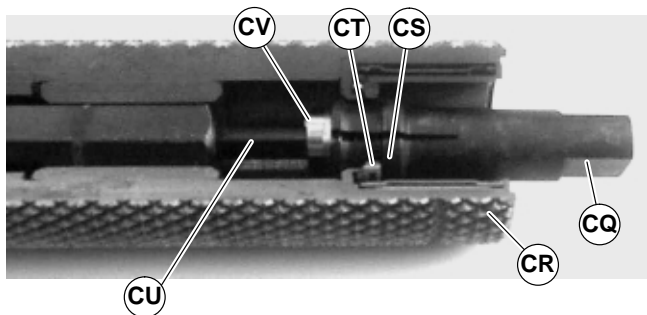

Figure 39
1. Insert bearing removal tool (CQ of Figure 39), part number 25-05, into the pulley (CR) until shoulder (CS) seats against bottom of bearing (CT).